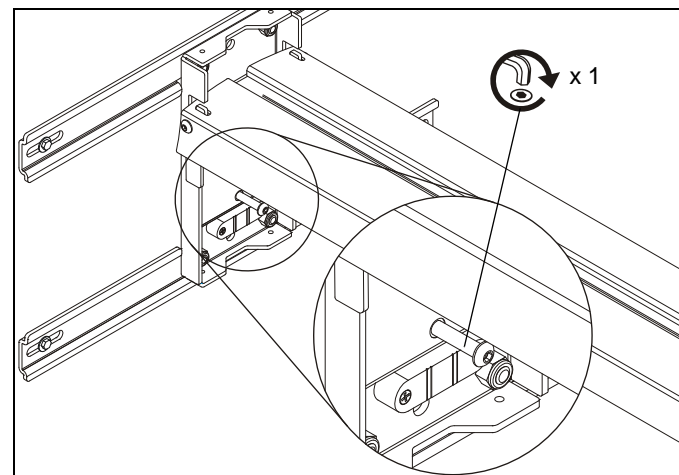

Figure 16
Tighten the button head cap screw on the arm adjustment plate (C) to level the projector arm. (See Figure 16)